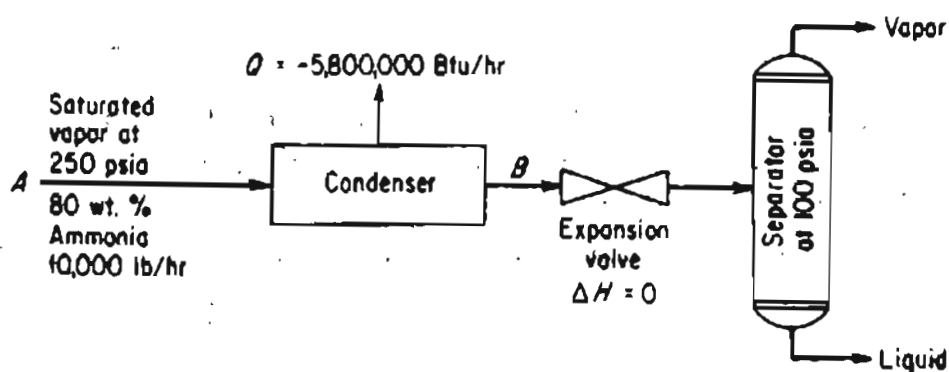

Figure P28.15
- 28.15*** A mixture of ammonia and water in the vapor phase, saturated at 250 psia and containing 80% by weight ammonia, is passed through a condenser at a rate of 10,000 lb/hr. Heat is removed from the mixture at the rate of 5,800,000 Btu/hr while the mixture passes through a cooler. The mixture is then expanded to a pressure of 100 psia and passes into a separator. A flow sheet of the process is given Fig. P28.15. If the heat loss from the equipment to the surroundings is neglected, determine the composition of the liquid leaving the separator by material and energy balances.